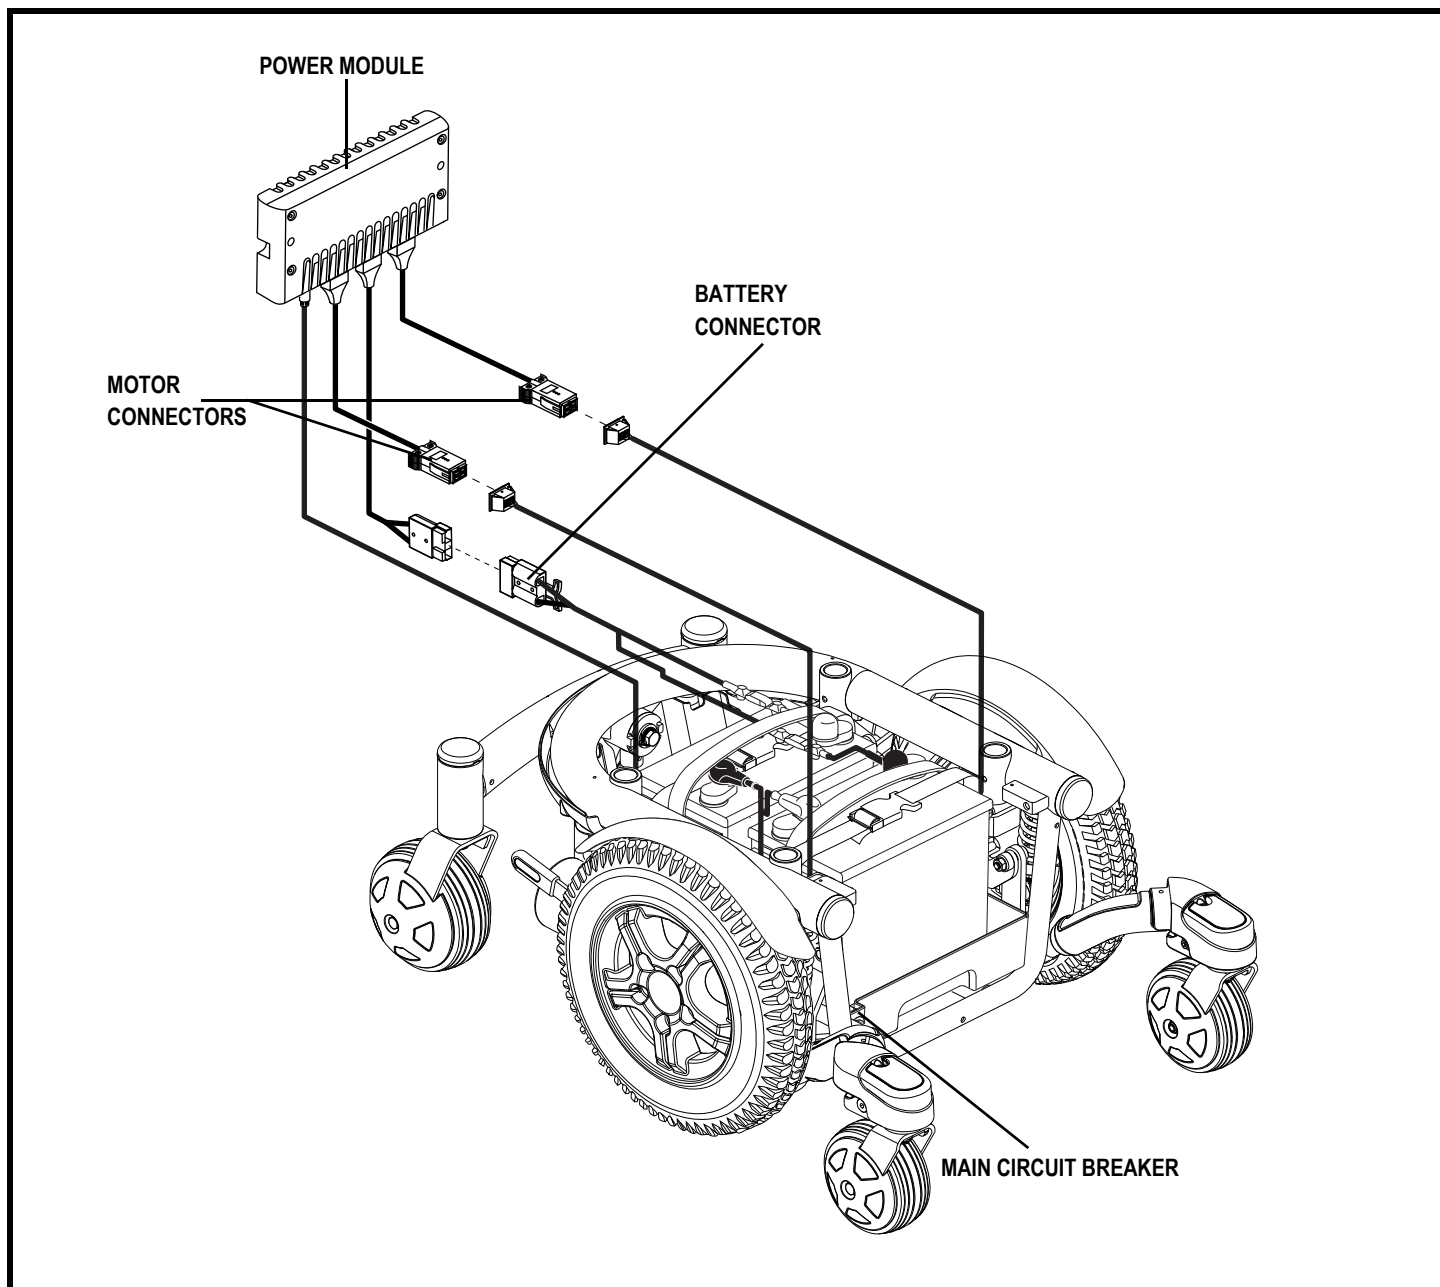

Figure 7. Electrical Components
The electrical components are located inside the power base. The main circuit breaker is located on the front of the battery tray. The controller connector(s) are located inside the power base. **See figure 7.**
8. Plug the controller connector(s) into the power base. See figure 7.
3. Disconnect the controller connector(s) from the power base. See figure 7.